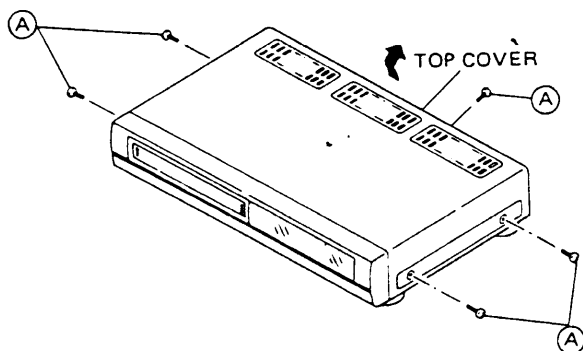

Fig. 1-1-1
1. Refer to Fig. 1-1-1 and set for the EJECT (Stop) mode and disconnect VCR from AC power.
2. Take out 5 screws (A). To remove the top cover, slide in direction of arrow and lift away.